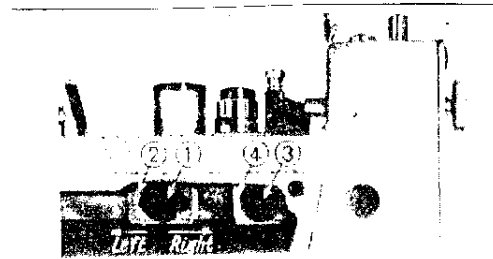

Fig. 9
II. FONCTION DU RELEVEUR DE FIL - FIGURE 9
NEANMOINS, LE PINCE FIL DOIT ETRE REGLE DE FACON A CE QU'IL NE RETIENNE PAS LE FIL PENDANT LA COUTURE. COMME INDIQUE FIGURE 11, EFFECTUER CE REGLAGE EN DESSERANT LA VIS (3) FIG. 9 DU BLOC BARRE DE PINCE DE FACON QUE PENDANT LA COUTURE, L'ESPACE ENTRE LE BLOC ET LA PINCE SOIT DE 0,8 A 1,2MM - DEPLACER LE BLOC DE DROITE A GAUCHE POUR OBTENIR CET ESPACE.